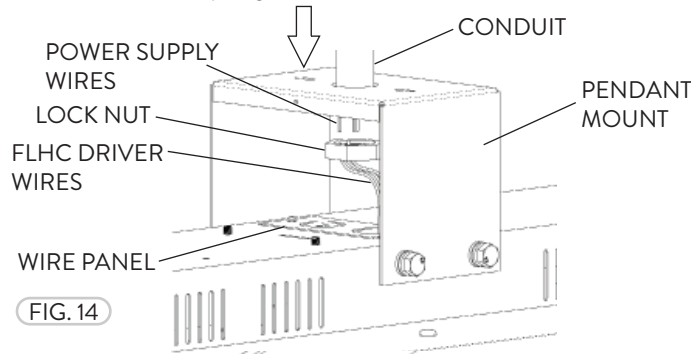
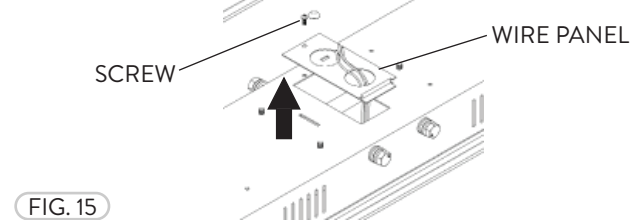

FIG. 14
FIG. 15
- 2 Once the Pendant Mount is installed onto the fixture, fasten a Conduit to the Mount from the hole on the top side using a Lock Nut that matches the thread on the Conduit. Run the AC Power Supply Cable down the Conduit and join the wires to the FLHC Driver (Fig. 14). The small FLHC Wire Panel can be removed by removing one screw if necessary (Fig. 15).